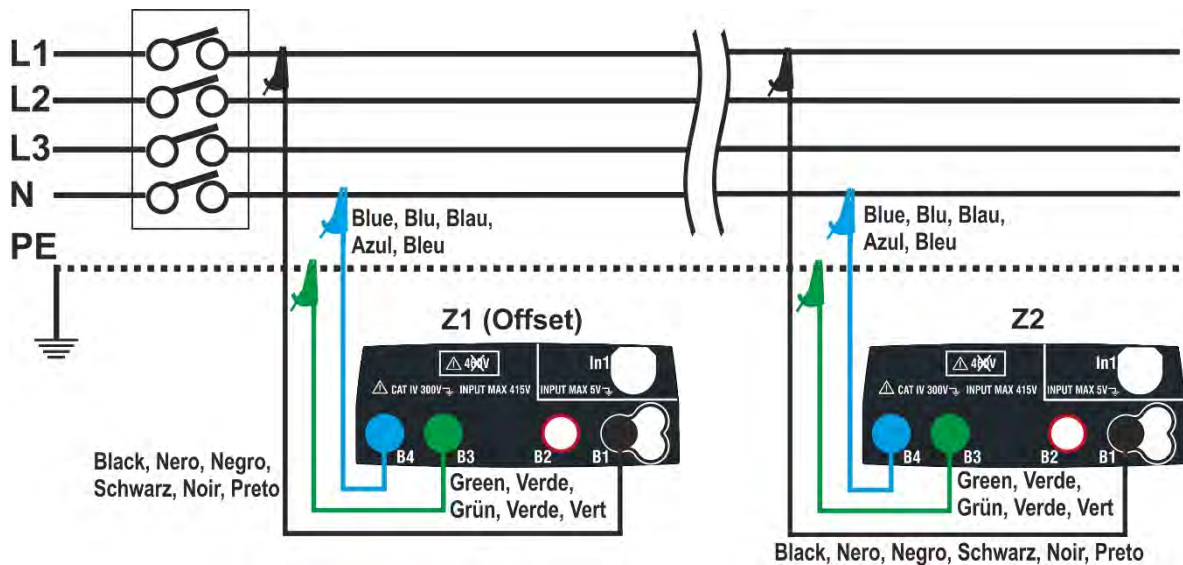

Fig. 34: Connection of the instrument for L-N mode voltage drop measurement
6. Go to step no. 9 in case the value of Z1 (Offset) has been set manually. **In case of the value of Z1 (Offset) has NOT been manually set** connect the instrument to the initial point of the main line being tested (typically downstream to a protection device) according to Fig. 34 or Fig. 35 in order to carry out the first **Z1 (Offset)** impedance measurement. In this case the instrument will measure the impedance upstream of the initial point of the main line being tested taking it as start reference. The following screen (referred to L-L measurement) appears on the display
9. Connect the instrument to the final point of the main line being tested according to Fig. 34 or Fig. 35 in order to measure the **Z2** impedance at the end of line. The screen to the side is displayed. Note the previously measured Z1 (Offset) value displayed